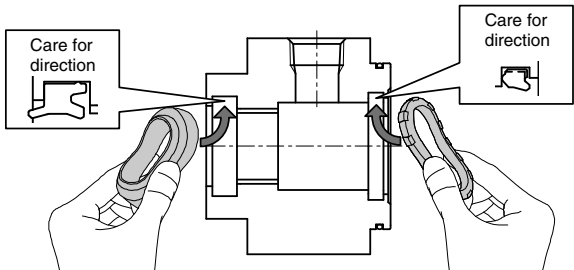

Fig. 4 Installation of the rod seal, cushion seal
- Mount the seal in the correct direction by bending the seal with fingers as Fig. 4.